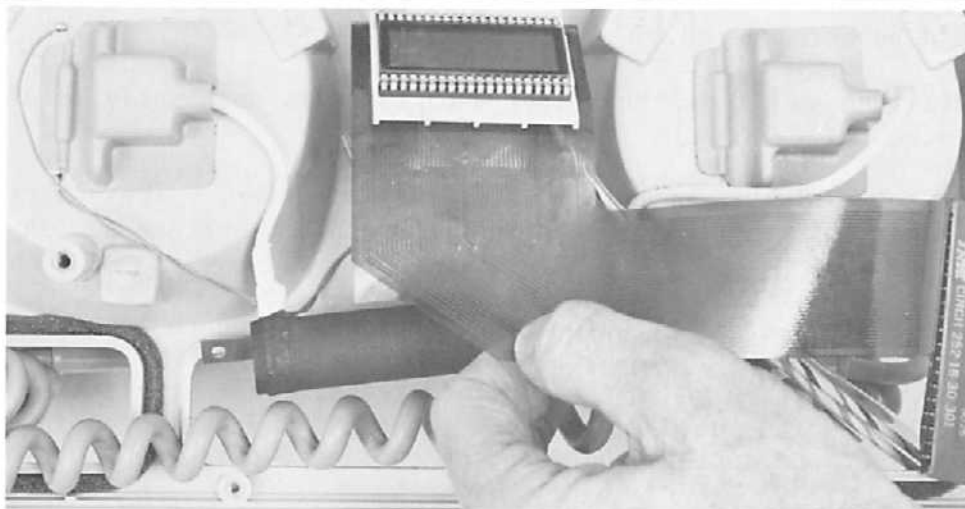

Figure 4-28.
6. Carefully fold the flex circuit back over the ENERGY SELECTOR switch to expose the LCD holder (see Figure 4-28).